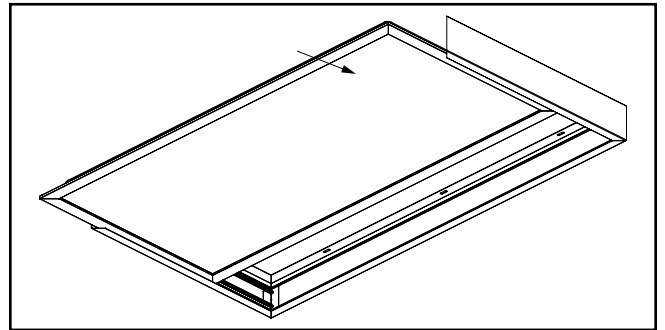

Figure 10.
- A10. Slide the fixture completely into the channel through the open side. (Figure 10.)